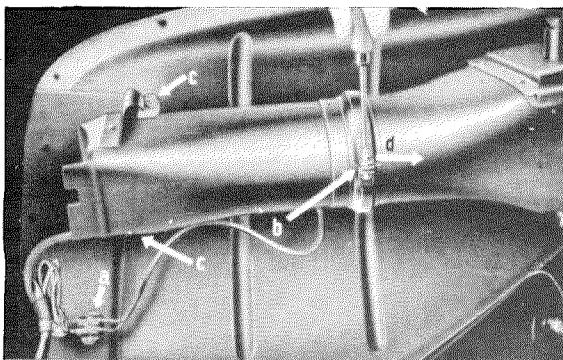

Fig. 83—4/1
3. Disconnect the electric cables at the cable connector (a) (Fig. 83—4/1) if a blower has been installed.